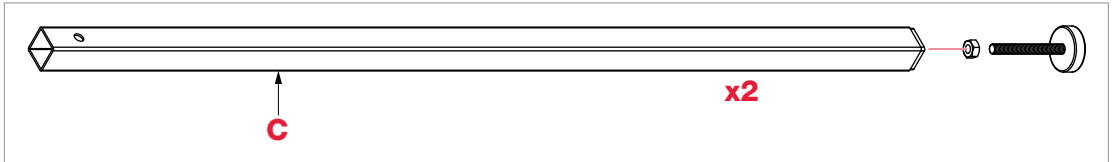

Fig. 20
- 13** Locate the two support legs (**C**) and remove the two leveling feet from the Support Leg Hardware Bag along with the two M8 hex nuts. Thread an M8 hex nut onto the threaded shaft of each foot so that the nut is close to the rubber base, and then thread the foot into the bottom of a support leg (see Fig. 20).